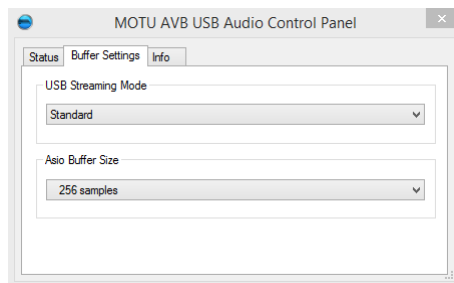

Figure 3-2: The MOTU AVB USB Audio Control Panel Buffer Settings tab.
*USB Streaming Mode* (Figure 3-2) determines how frequently the USB driver transfers audio. Smaller settings reduce latency. This setting determines the latency for standard Windows audio applications (such as Media Player). For further information about latency, see "Reducing monitoring latency" on page 59.
*ASIO Buffer Size* (Figure 3-2) determine how much delay you hear when monitoring live inputs through your audio software: larger buffers produce more delay; smaller buffers produce less. For complete information about this setting, see "Working with Host Audio Software" on page 55.